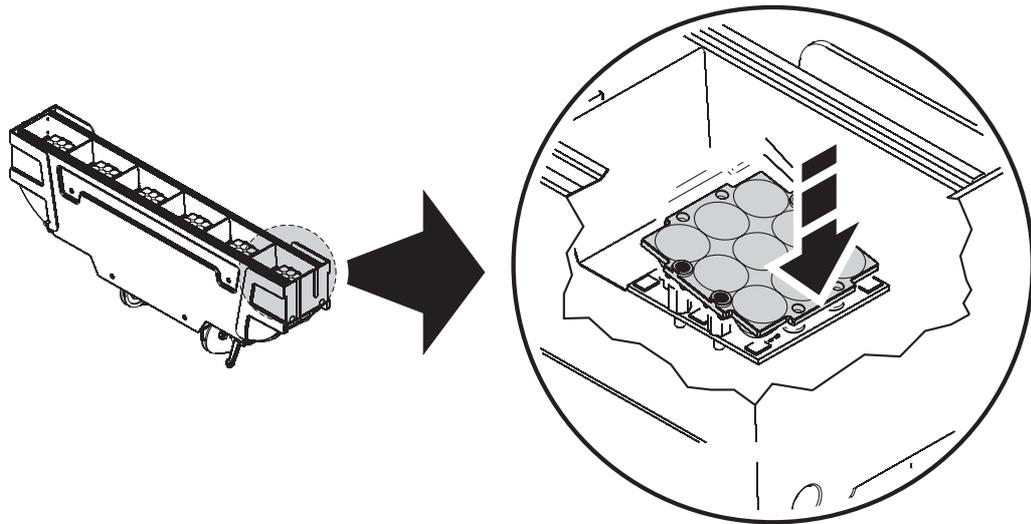

Figure 6: Lens removal
3. See Figure 6. Lens sheets are retained by magnetic mountings. Press on one side of the lens sheet until you can grip the other side. Lift the lens sheet off the magnets and store for possible future use.